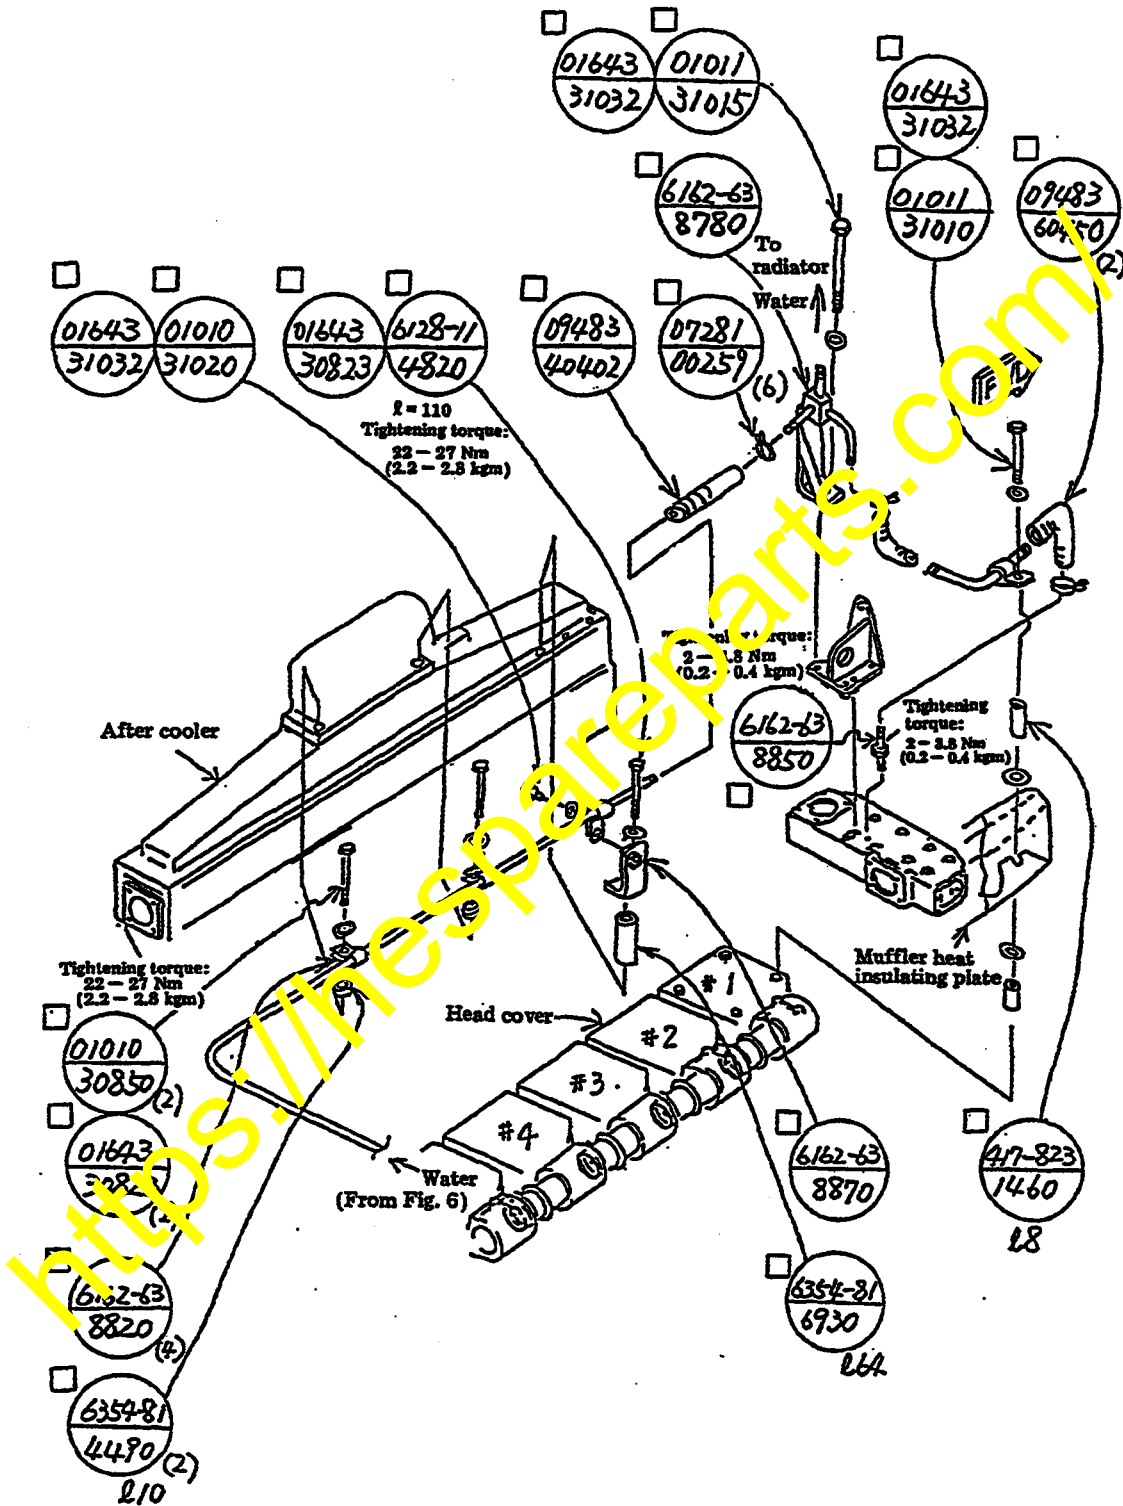

Fig. 7 Cooling water tube between upper (front) side turbocharger outlet and thermostat cover system
- 4) Install the cooling water tube between the turbocharger outlet and thermostat cover as shown in Fig. 7 (on page 10).